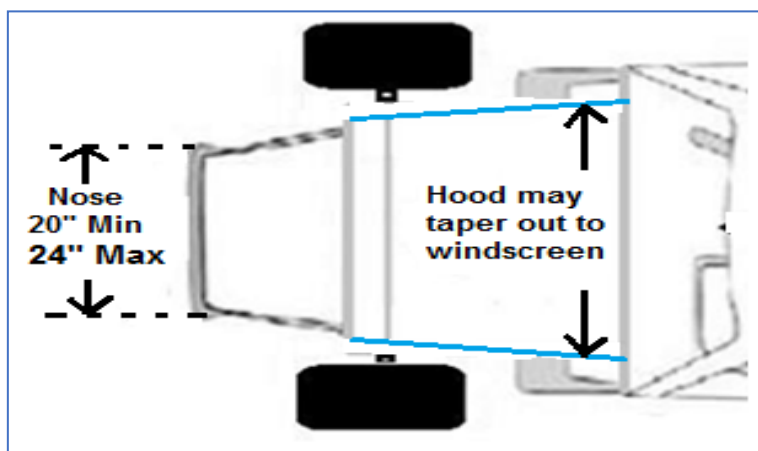

Figure 6
**8.3** No part of the nose section 8 inches in front of the lower ball joint, may be wider than 24 inches or narrower than 20 inches (*Figure 6*). (Cars manufactured prior to the 2018 production year with the narrow nose will be grandfathered).
**8.4** Rear of hood may taper out to door panels (*Figure 6*).
- 24.8** Front engine area frame and nose width must be between 24 inches max and 20 inches min outside dimension (*Figures 6 & 17*). (Cars manufactured prior to the 2018 production year with the narrow nose will be grandfathered).